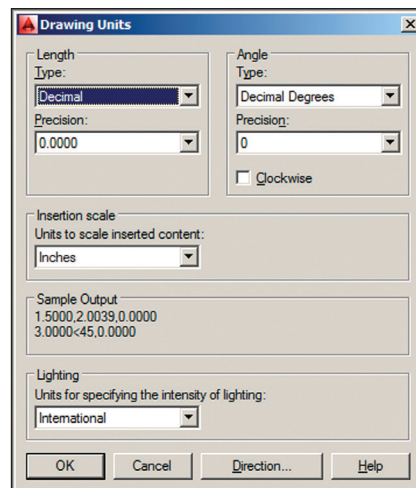

FIGURE 1.18 Setting drawing units
2. Type UN and press Enter to bring up the Drawing Units dialog box (see Figure 1.18). UN is the command alias (abbreviation) of the UNITS command. Most commands have aliases that minimize typing.